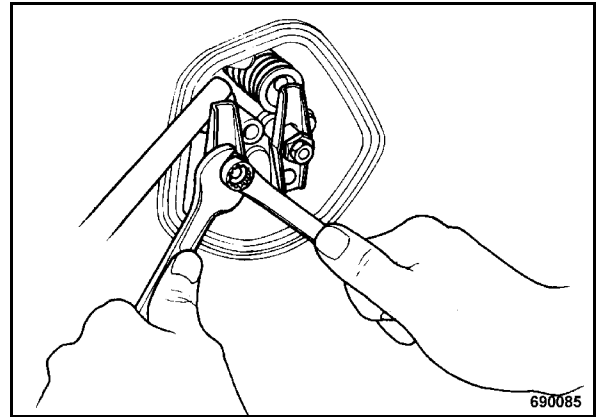

Fig. 51
- Check the valve clearance with a feeler gauge on both valves (1) (Fig. 51).